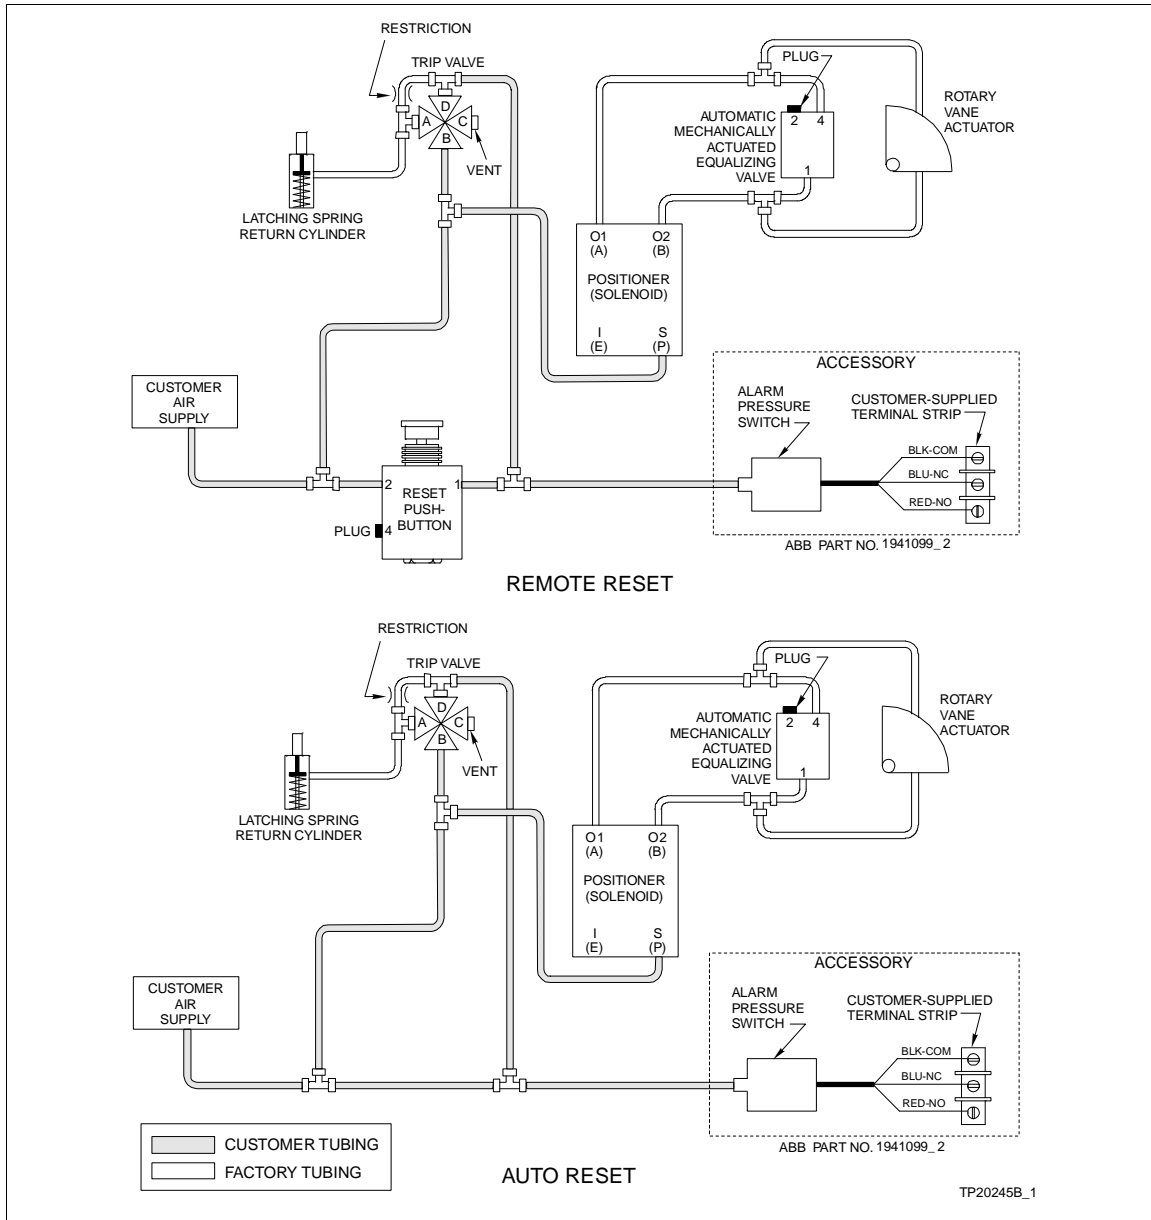

Figure 3-15. Tubing Schematic for Type UP1 Actuator with Air Failure Lock
3. Wire the switch to a terminal block or directly to the alarm as shown in Figure 3-15.